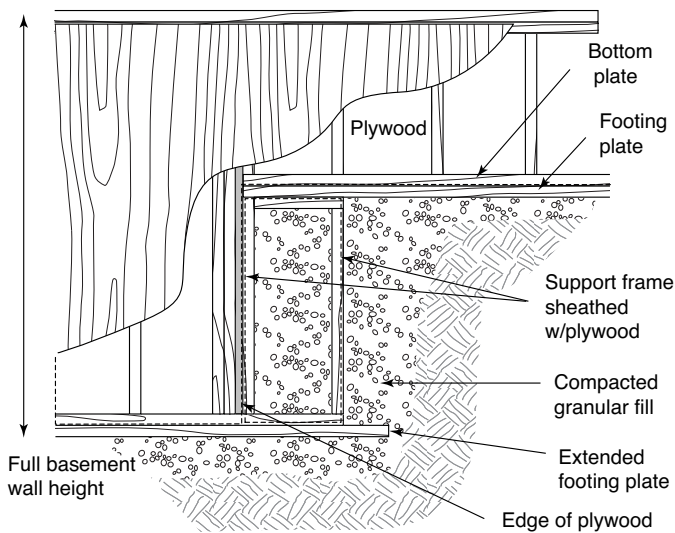

FIGURE 44
- ◆ Provide additional framing support for stepped footings (see Figure 44).